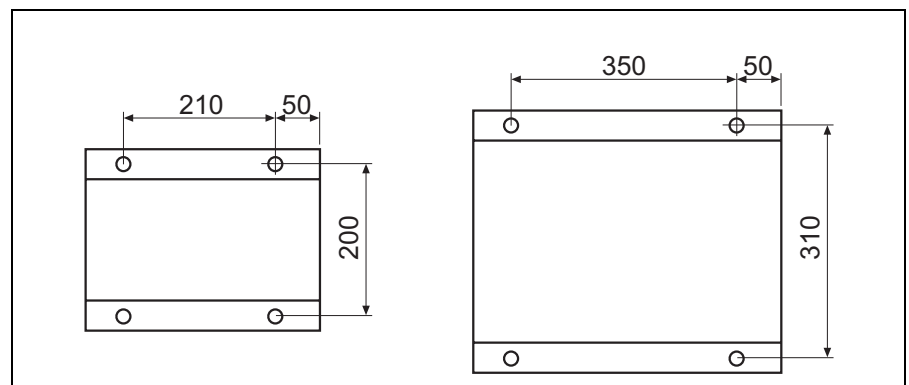

Fig. 4.2 Drilling diagram for base plate
1. Drill the holes (9 mm or 11 mm) for the base plate (see Fig. 4.2). The outlet side is on the right.